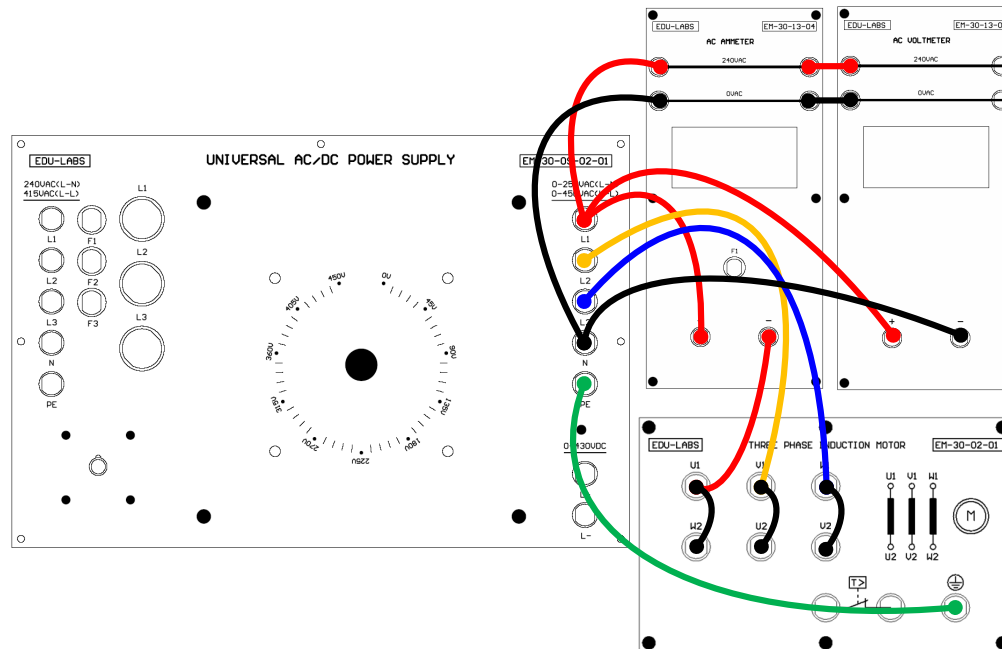

Fig. 2: Delta Connection (**THREE PHASE 240V SUPPLY ONLY**)
2. Connect the Universal AC/DC Power Supply L1, L2, L3 to the Ammeter & Voltmeter before connected to Three Phase Induction Motor U1, V1, W1 and make sure that the connection is DELTA connection in U2, V2, W2 as in Fig.2, Connect the earth of the motor.